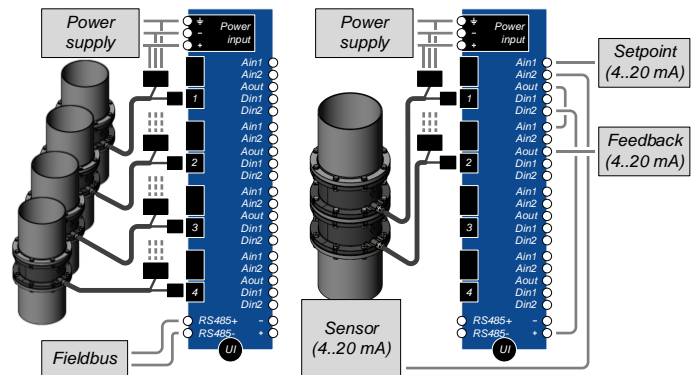

Figure 5: Example of interface panel setups
- Individual control of up to four fans through a single power and fieldbus connection (*Figure 5*, left).
- Analog synchronization of two or more fans for parallel or serial operation (*Figure 5*, right).